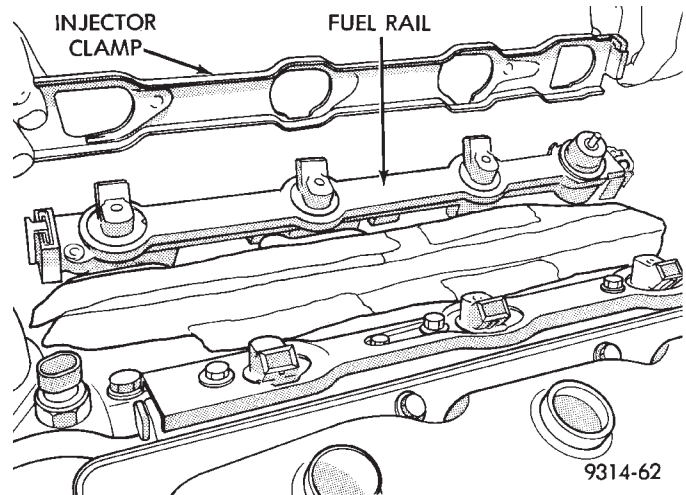

Fig. 31 Injector Clamp—3.5L Engine
- (10) Slide the injector clamp toward the rear of the engine, then lift the clamp off of the rail (Fig. 31).